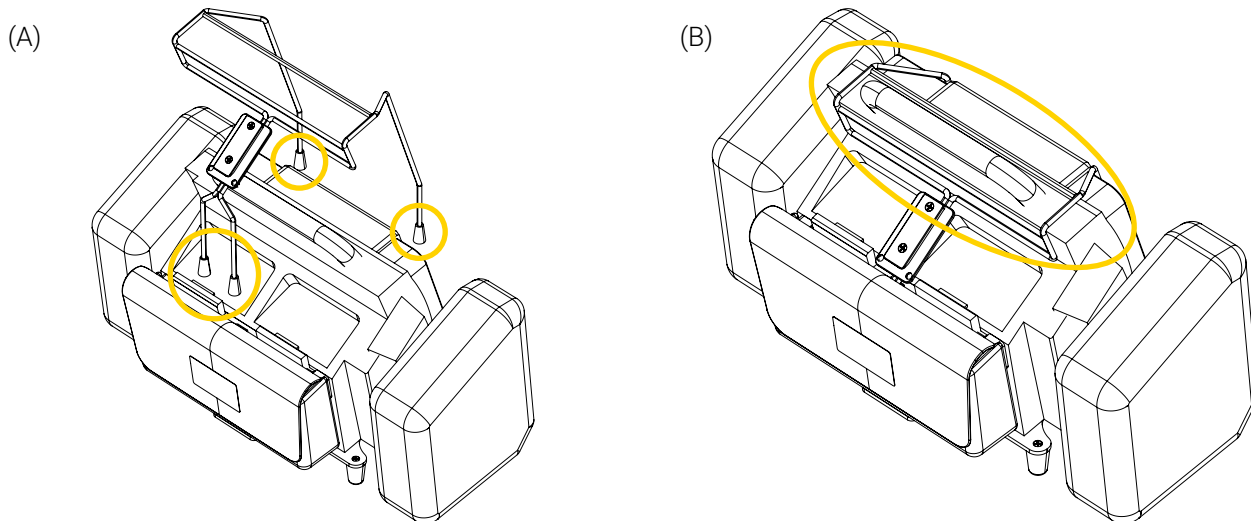

Figure 6: Installing the retaining frame (rear view)
5. Insert the two (2) shorter legs of the retaining frame between the back accessories bag and rear of the monitor/defibrillator, moving the bag as needed to facilitate the insertion (Figure 6 A).
6. Insert the two (2) longer legs of the retaining frame over the top and front of the monitor/defibrillator (Figure 6 A).
7. Insert the handle of the monitor/defibrillator between the two (2) horizontal rods of the retaining frame (Figure 6 B).